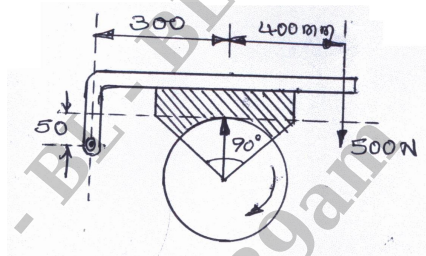

Fig. Q10 (a)
- 10 a. A single block brake with drum diameter of 350 mm is shown in Fig. Q10. The angle of contact is 90° coefficient of friction is 0.33. Determine safe power that can be absorbed at 1440 rpm. (10 Marks)